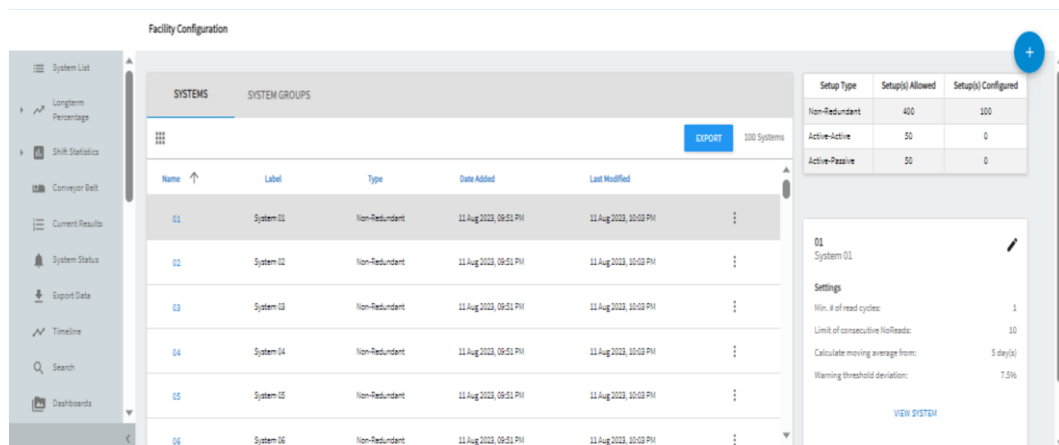

Figure 4: Facility Configuration Page
1. On the **Facility Configuration** page, click the Add icon . Refer to Figure 4: Facility Configuration Page